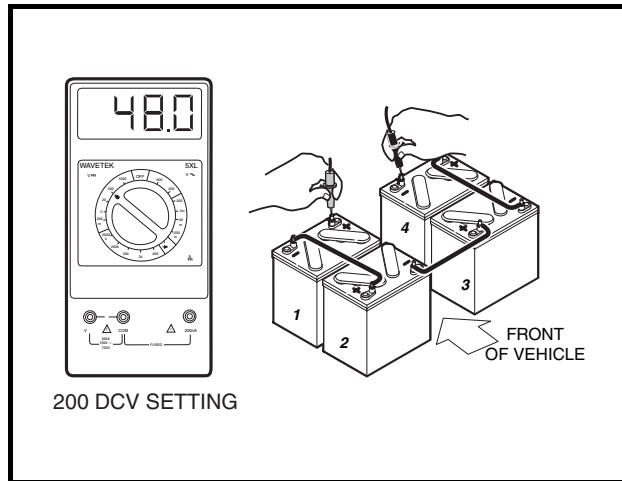
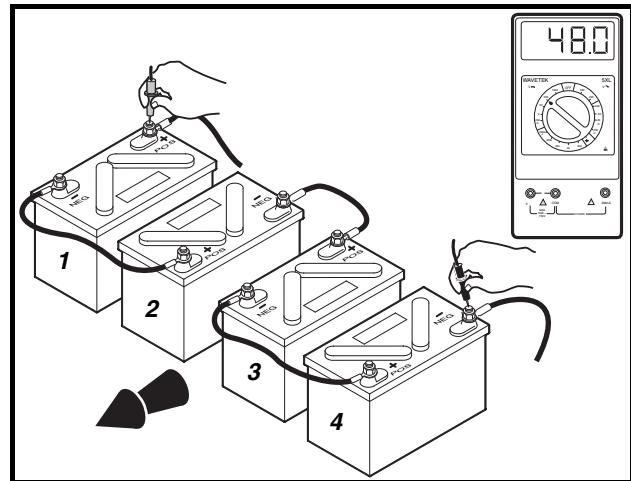

Figure 7-14 Battery Voltage Test – Precedent Style A Battery Configuration
Figure 7-15 Battery Voltage Test – Precedent Style B Battery Configuration
- 4.3. **Style A and B 4 x 12-Volt Precedent only:** With a multimeter set to 200 volts DC, measure the voltage of the battery pack between the positive (+) post of battery no. 1 and the negative (-) post of battery no. 4 (**Figure 7-14, Page 7-18 or Figure 7-15, Page 7-18**).